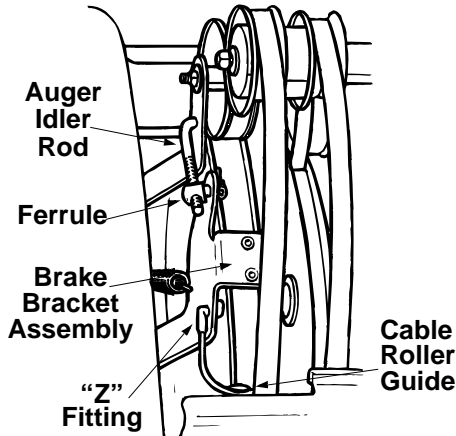

Figure 19
4. Remove the cotter pin and washer from the ferrule in order to disconnect the auger idler rod from the brake bracket assembly as shown in Figure 19.
5. Slip the auger control belt (the front belt) off the engine pulley. Refer to Figure 19.
6. Attach the "Z" fitting of the cable into the brake bracket assembly. See Figure 19.